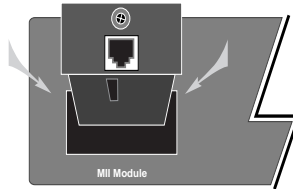

Figure 2-7 Installing an MII module
- 3** Slide the MII module into the MII slot until it stops, then push the module in until it seats with the connector. See Figure 2-7.